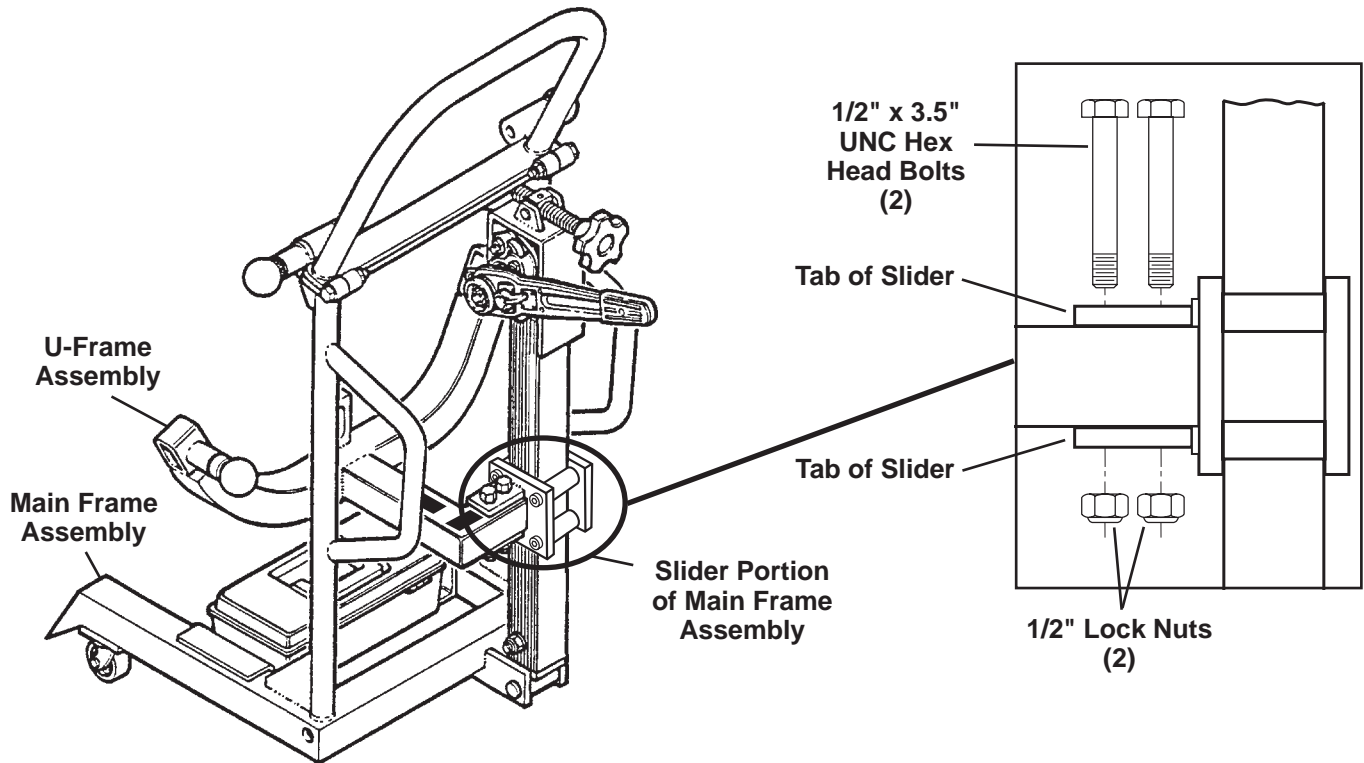

Figure 4
5. Position the U-frame assembly into the tabs of the slider portion of the main frame assembly as shown in Figure 4, and secure the assembly in place using two hex head bolts (1/2" x 3.5") and two locknuts (1/2").